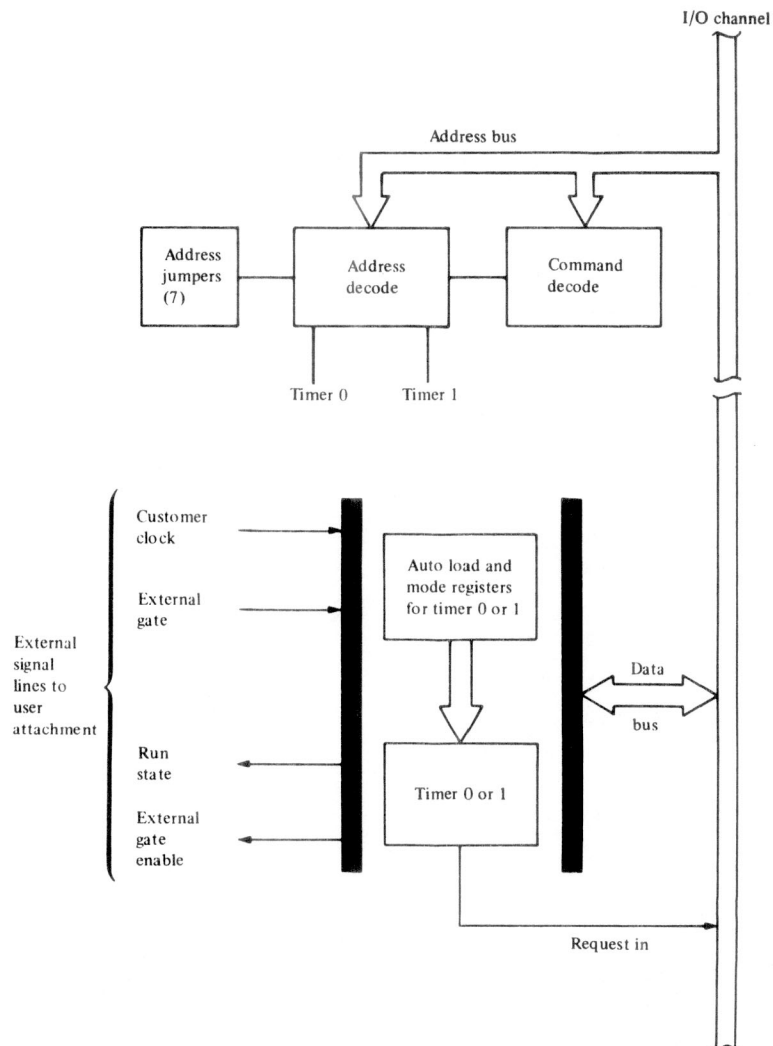

Figure 2-1. Timer feature block diagram
The timer feature has two separately addressable 16-bit timers on one attachment card (Figure 2-1). Each timer can be used as (1) an interval timer, (2) a pulse counter, or (3) a pulse duration counter. (See "Application Examples" at the end of this chapter for more details of these uses.)
As shown in Figure 2-1, each timer has four external signal lines for user attachments. These signal lines permit control of the timer by a user-provided timebase and gate. The signal lines are described in the following sections.